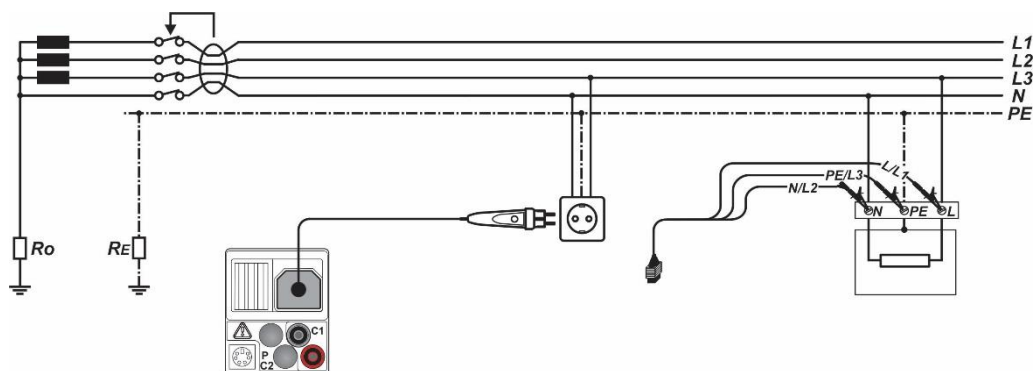

Figure 5.20: Connecting the plug commander and the 3-wire test lead
- Connect** test leads to the item to be tested (see *Figure 5.20*).
<ul style="list-style-type: none"> <li>❑ Select the RCD function using the function selector keys.</li> <li>❑ Set sub-function to AUTO using UP / DOWN keys.</li> <li>❑ Set test parameters (if necessary).</li> <li>❑ Connect test cable to the instrument.</li> <li>❑ Connect test leads to the item to be tested (see Figure 5.20).</li> <li>❑ Press the TEST key to perform the test.</li> </ul>	Start of test